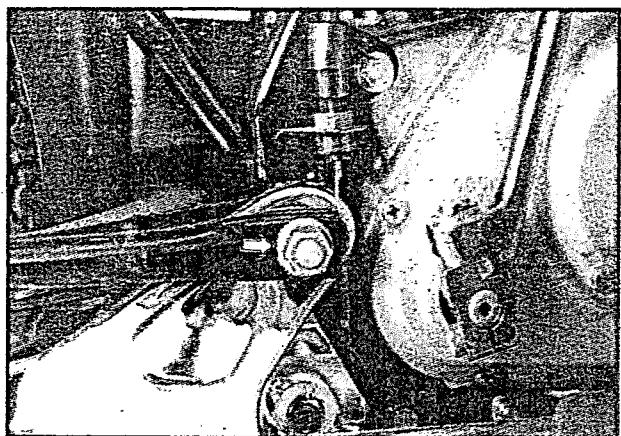

Fig 6.67
- Loosen and remove the pivot nut (fig 6.67)